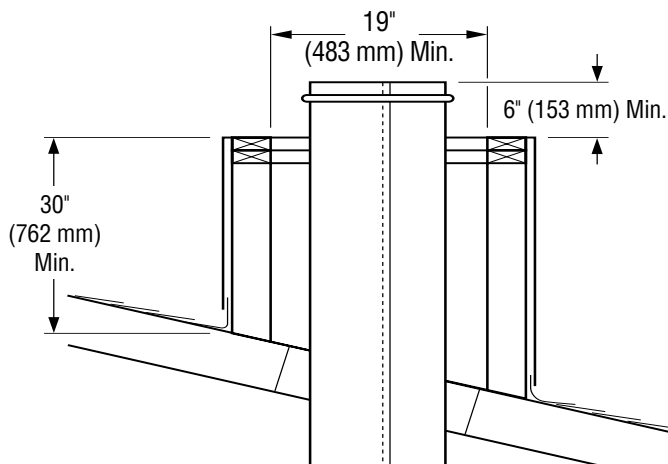

Figure 22 - Constructing Chase
1. Construct chase as illustrated in Figure 22. **Note:** The shortest vertical side must be at least 30" high and the minimum inside dimension must be at least 19" as shown in Figure 22.
2. Add pipe sections to chimney system as outlined in fireplace installation instructions until the last piece of chimney is a minimum of 6" above chase top (see Figure 22).